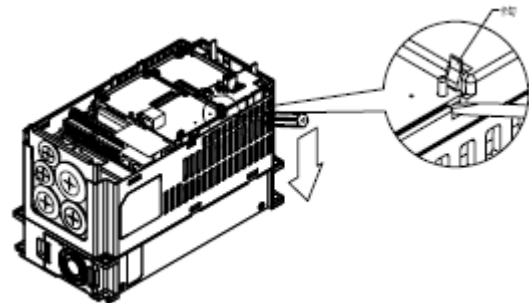

Figure 3.2-2
2. Twist open the card clip and insert the slot type screwdriver to the hollow to separate the PCB from the card clip (see Figure 3.2-2).